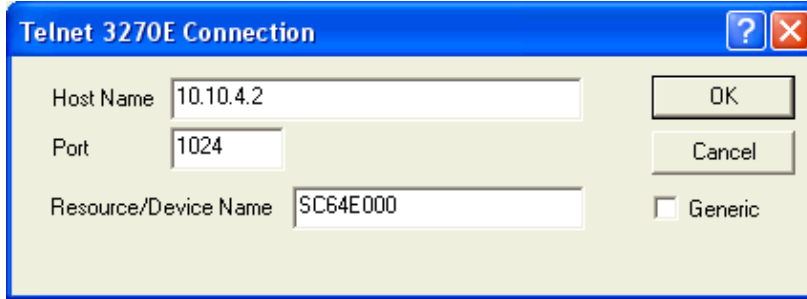

Figure F-12 Telnet 3270E connection
This is the name of this TN3270E session. We recommend that the session name be the same as the LU name defined for the session (see Figure F-12 on page 142).
9. The Telnet 3270E Connection panel is displayed (Figure F-12 on page 142) with the following options defined: